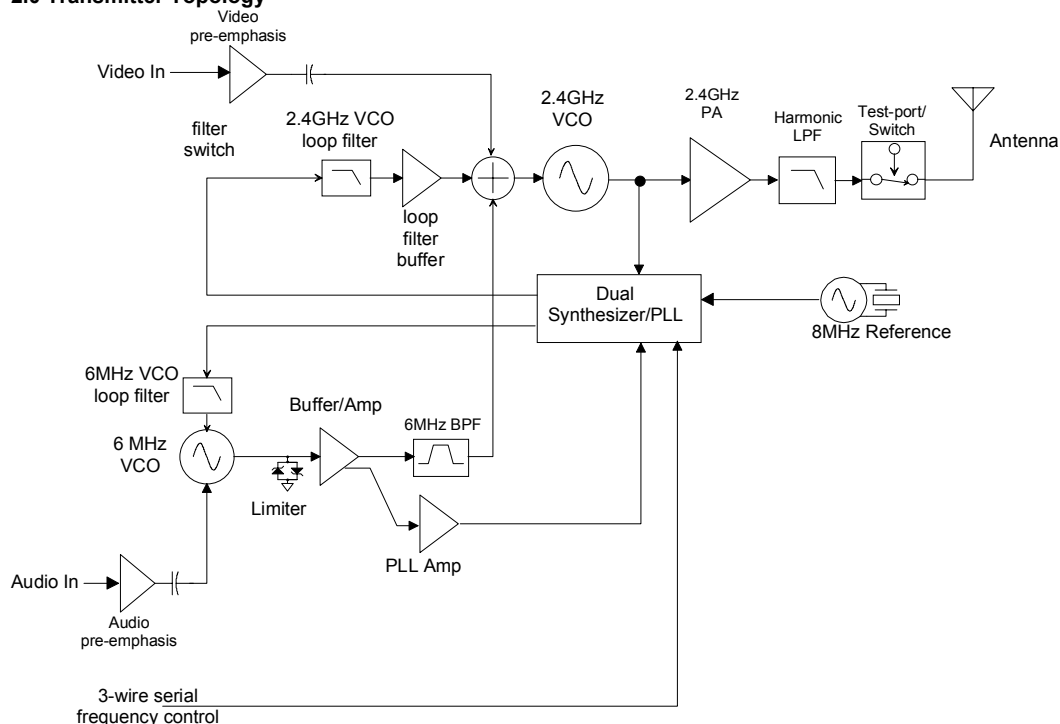

Figure 1
**Figure 1** above; shows the block of the FM transmitter topology. The transmitter is essentially PLL stabilized VCO, operating at the output frequency, that is a directly modulated by the video signal. The VCO is controlled by a PLL and tuneable over the 2400-2485MHz ISM band.